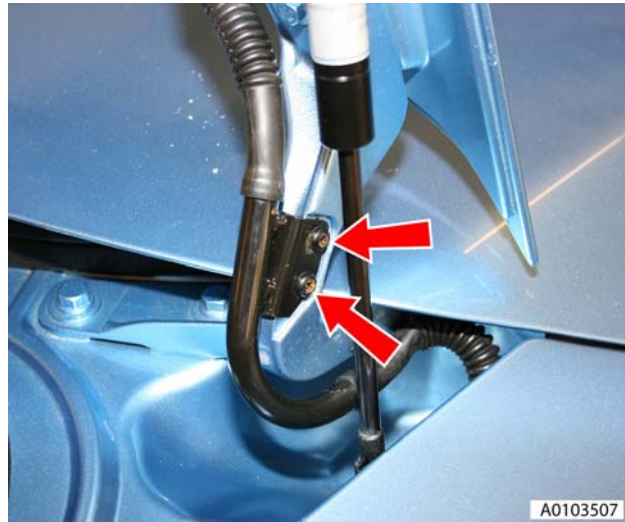

Figure 6
10. Remove bolts (x2) securing harness to hinge and release harness (see Figure 6).